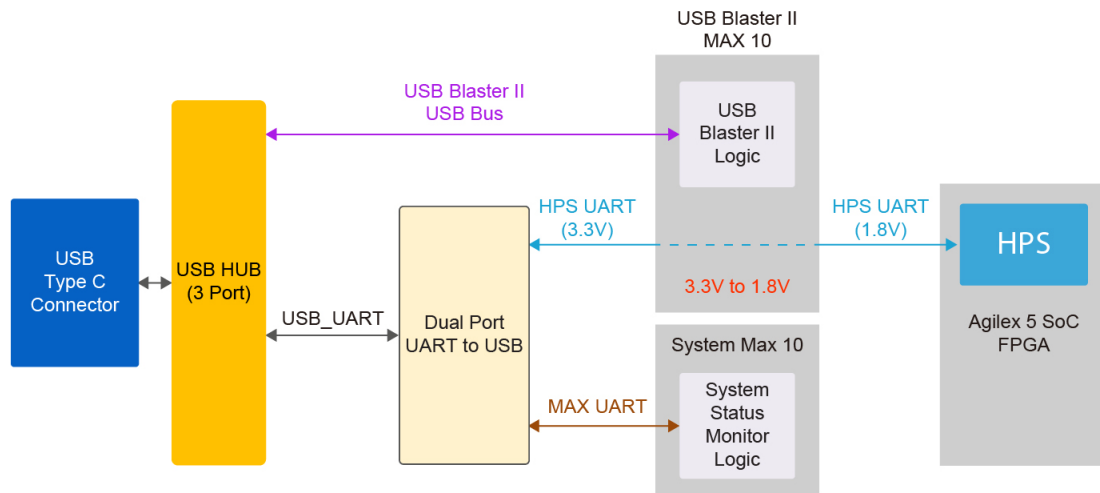

Figure 2-19 Three UART interface on the Atum A5 board
One of the USB Type-C connector on Atum A5 board (J) is connected to three functions: USB blaster II interface, USB to UART for HPS and system MAX10. As shown in Figure **Figure 2-19**, the USB type C connector is connected to a 3-port USB HUB. One of the USB ports is connected to the USB blaster II MAX10 to provide **USB blaster** function. The other USB port is connected to the **dual port USB to UART** chip. This chip will